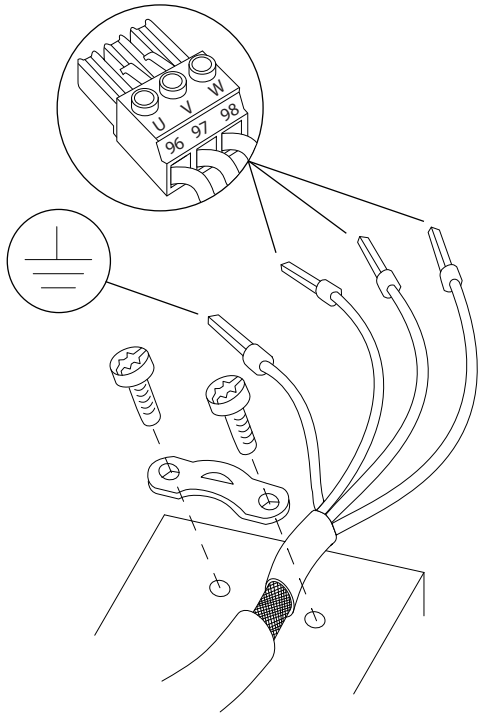

Figure 4.5 Motor Connection
- Connect ground wire to the nearest grounding terminal in accordance with grounding instructions provided in chapter 4.3 Grounding, see Figure 4.5.
- Connect the 3-phase motor wiring to terminals 96 (U), 97 (V), and 98 (W), see Figure 4.5.